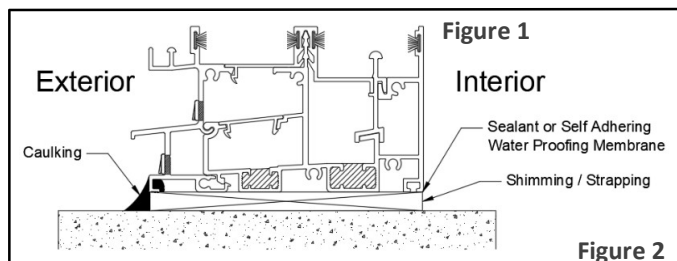

Figure 2
2.2 Apply a heavy continuous bead of good quality caulking/Butyl sealant or Self-Adhesive Water Proofing Membrane (recommended) under the outside lip of the sill and insert the main frame into the opening as shown (figure 2).
2.4 The sill must be installed level and uniformly supported from left side to right side and from inside to outside. Use a level and use solid shims made of composite pvc or wood material (every 16") if necessary to compensate for unevenness in the opening (Figure 2). Use brackets or angles that do not puncture the top of the sill if possible but if the use of screws cannot be avoided, ensure they are back sealed and covered with sealant. They must be waterproof. Apply sealant to all fasteners.